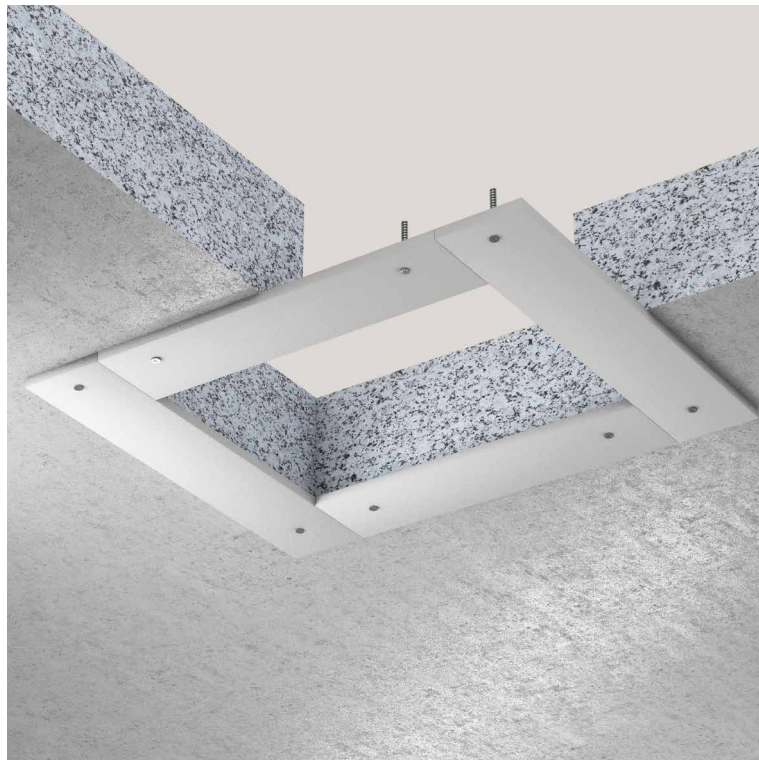
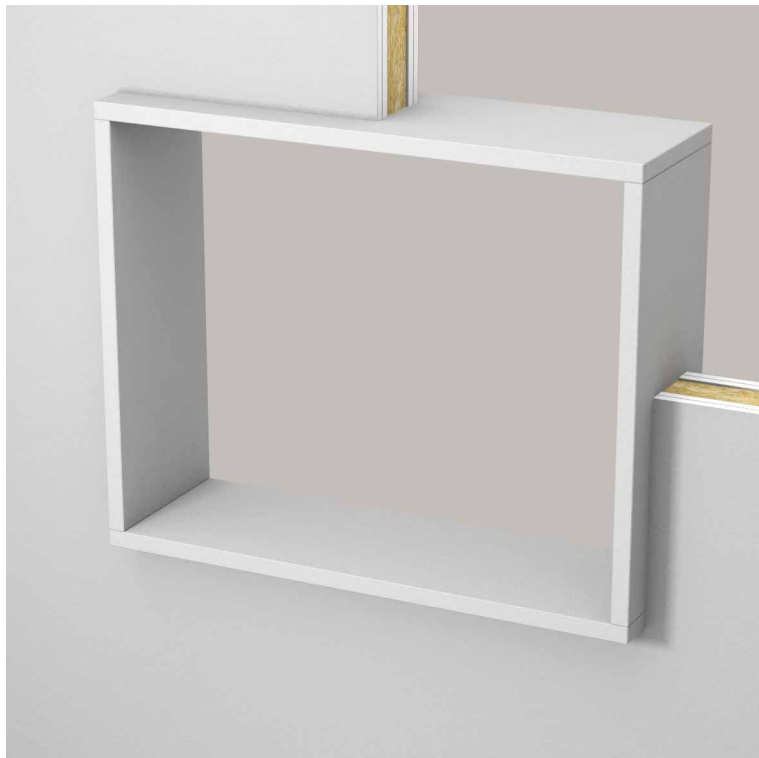

Figure 9: Tuning for ceiling
Figure 11: Frame for lightweight partition wall or solid wall
- If the solid wall or ceiling in the area of the fire insulation does not correspond to the required minimum insulation thickness, then use a frame (see Figure 11) or tuning (see Figure 9+10) made of non-combustible plates (plasterboard, silicate or calcium silicate plates of class A2-s1, d0 or A1 according to EN 13501-1) around the insulation opening, so that the PYROSIT® NG fire protection foam is in contact with the frame, tuning or wall over the entire length of the insulation.
- If the lightweight partition in the area of the fire insulation does not correspond to the required minimum insulation thickness, then use a frame (see Figure 11) or tuning (see Figure 10) made of non-combustible plates (plasterboard, silicate or calcium silicate plates of class A2-s1, d0 or A1 according to EN 13501-1) around the insulation opening, so that the fire protection foam PYROSIT® NG is in contact with the frame, tuning or wall over the entire length of the insulation.